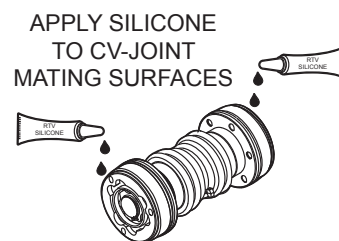

Figure 18. Applying RTV Silicone
1. Apply a thin coat of RTV silicone (Figure 18) to mating surfaces of CV axle assembly.